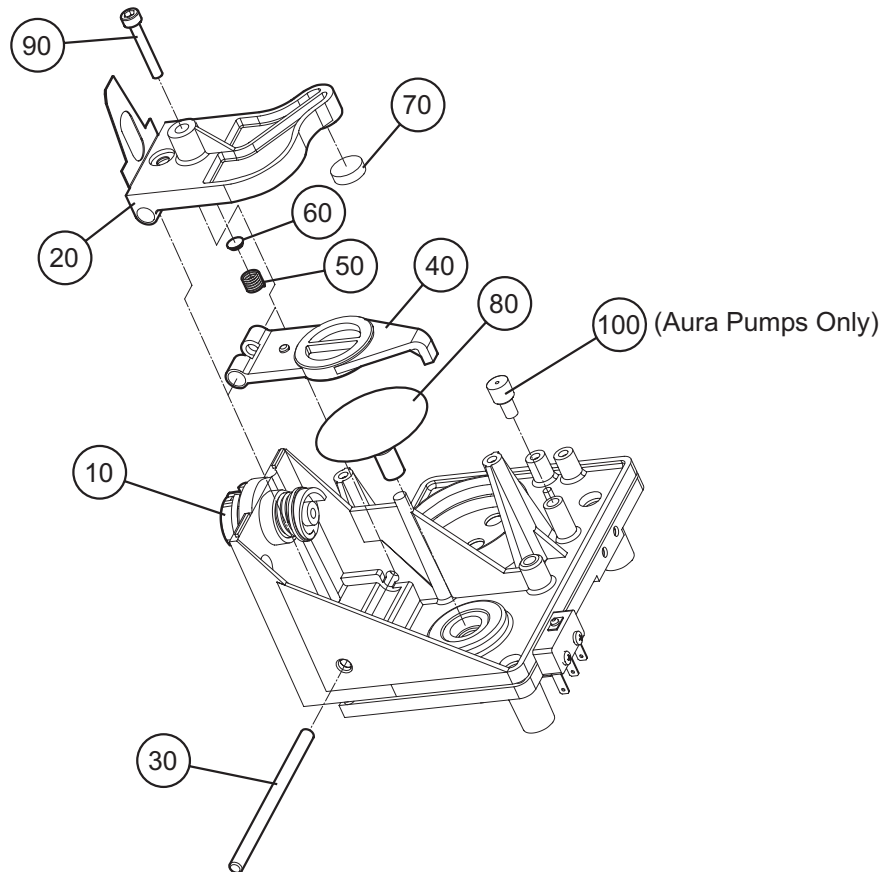

Figure 19 - Pressure Control Flaps, Air Bag, Control Knob Cam and Arbour
- 35.1 Turn the control knob around fully counter-clockwise (Fig 19, Item 10). Hold the upper pressure control flap (Fig 19, Item 20) in position and withdraw the pivot pin (Fig 19, Item 30). Carefully remove the upper flap and the lower flap (Fig.19, Item 40) together with the low pressure operating spring and brass disc (Fig 19, Items 50 and 60).
- 35.2 Remove and discard the pressure control disc (Fig 19, Item 70) from the upper flap. Replace with new item.
- 35.3 Remove and discard the air bag assembly (Fig 19, Item 80). Replace with a new item. Ensure the air bag is secure by pushing in the centre and rotate it slightly to ensure it is seated.
- 35.4 Ensure that the low pressure adjustment screw (Fig 19, Item 90) is fully disengaged. Carefully locate the brass disc (Fig 19, Item 60), boss uppermost in the rebate in the upper flap. Locate the spring (Fig 19, Item 50) on the disc and position the lower flap (Fig 19, Item 40) against the spring.
- 35.5 Refitting is the reverse of the above procedure. When refitting, hold the group of components together and position them on the pressure control module. Insert the pivot pin (Fig 19, Item 30) to retain the flaps.